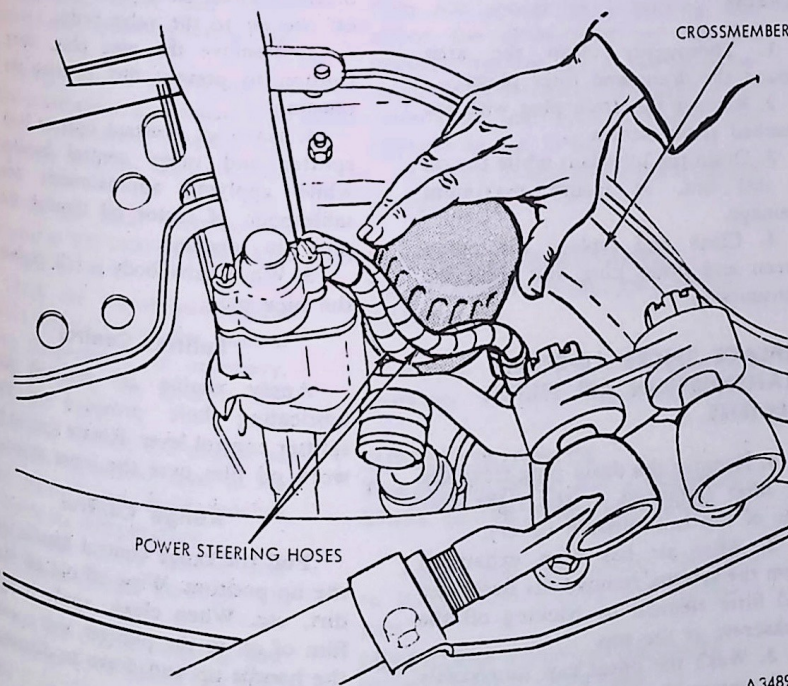

FIG. 149
3. Slide the filter rearward and remove (Fig. 149).